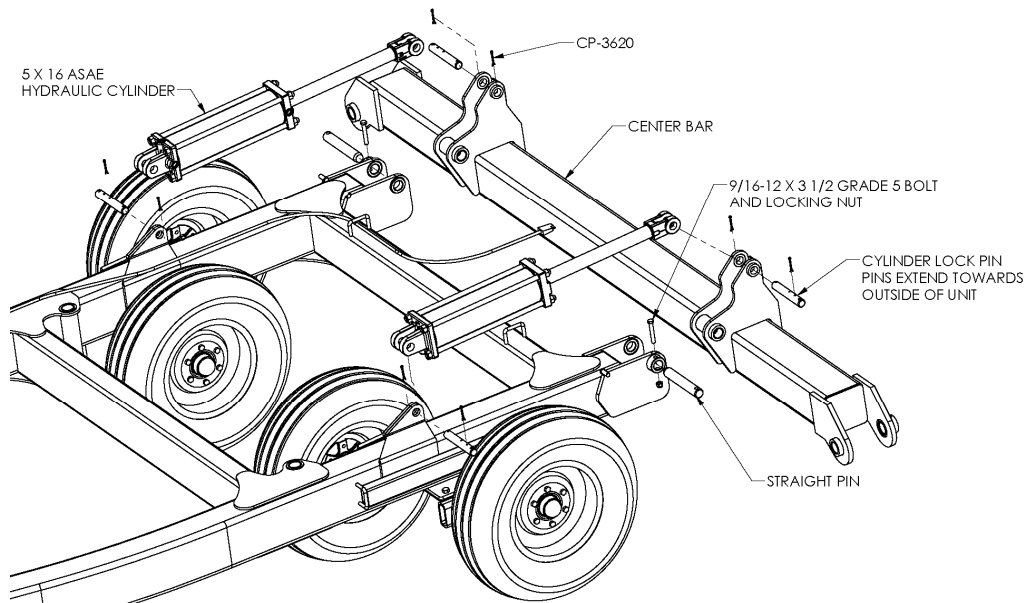

Figure 3
Note for 14L tires: it's recommended to pin the lift cylinder to the main frame first (see figure 3).
1. Attach the center bar to the main frame. Refer to Figure 3. Use the 1 1/2" x 9 5/8" straight pins, 9/16" x 3 1/2" grade 5 bolts, and locking hex nuts.